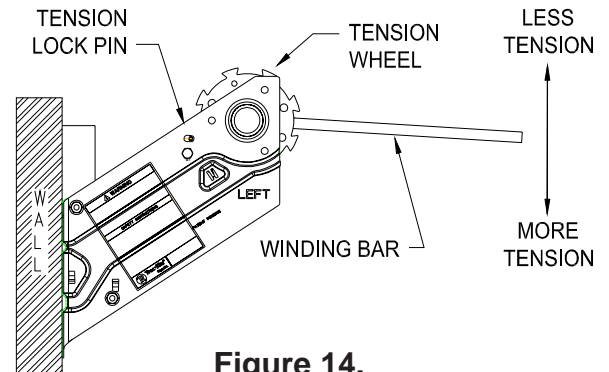

Figure 14.
11.2T To add tension, insert winding bar and move down until ratchet clicks after 1/8 turn. Move up slightly until ratchet locks in place. See Figure 14.
15.4 Carefully rotate the door away from the wall until NO tension is on the spring(s). Unbolt spring(s) from bracket(s). On doors with optional tension adjustment system, reference Step 11.1T and Figure 14 to remove all tension on that side of the door.